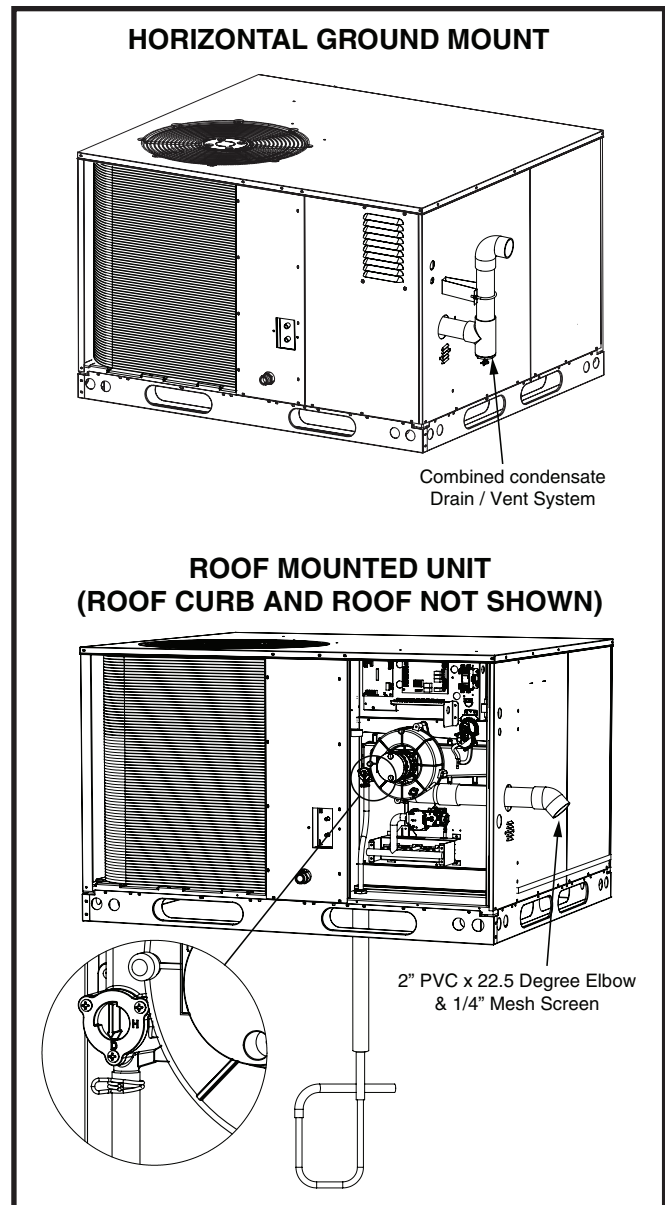

Figure 2. Heat Exchanger Condensate Drain & Vent Assembly
The vent and drain assembly must be installed to assure proper operation of the unit. Figure 2 shows the proper installation of the vent and drain assembly for both horizontal and downflow applications. The fasteners used to secure the vent and drain assembly have been included in the kit. The following list summarizes the requirements for the location of the vent system termination:
- The appropriate accessory roof curb must be installed prior to unit installation. The roof curb must be square and level to ensure proper condensate drainage. See Figure 2 \(page 6\). **Please follow all instructions provided with the kit.**